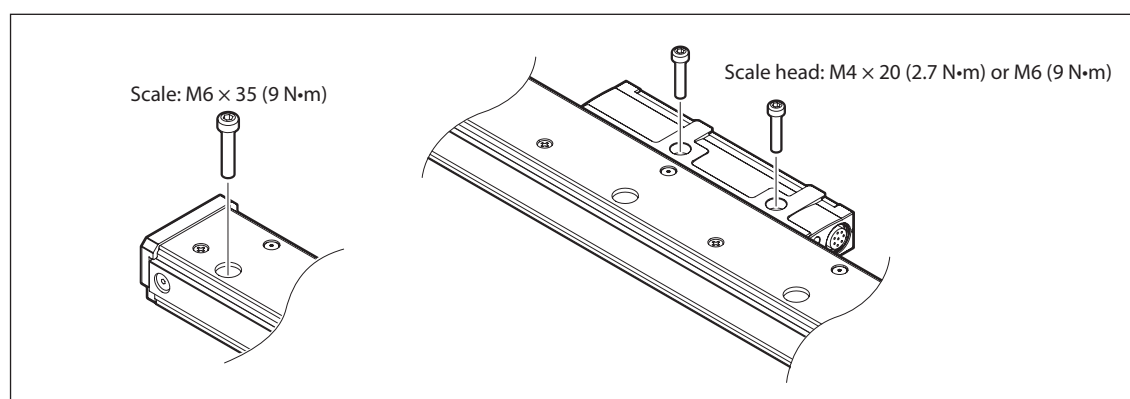

Fig. 3-3
- Loosely turn the mounting screws first. Determine the alignment and then tighten the screws to fasten the scale. (See Fig. 3-3)